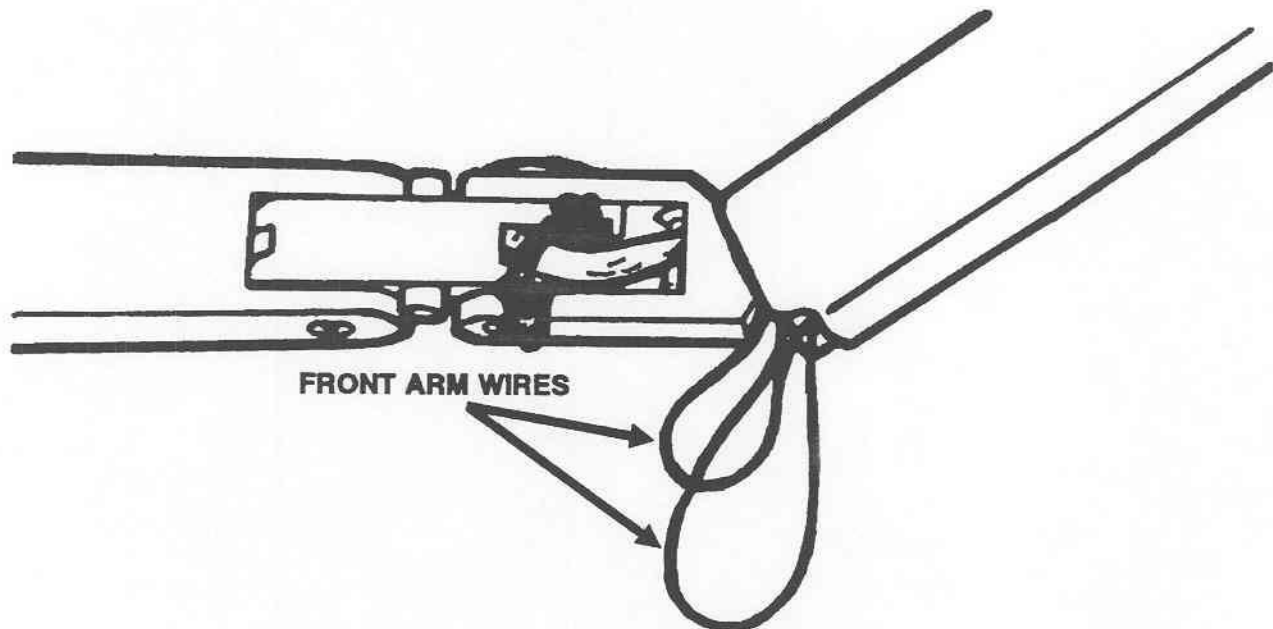

Figure 3-13. Wiring removal.
- (6) Pull the electrical wires from the rear arm.
- (7) Remove the second knuckle cover and pull the electrical wires from the front arm (fig 3-13).